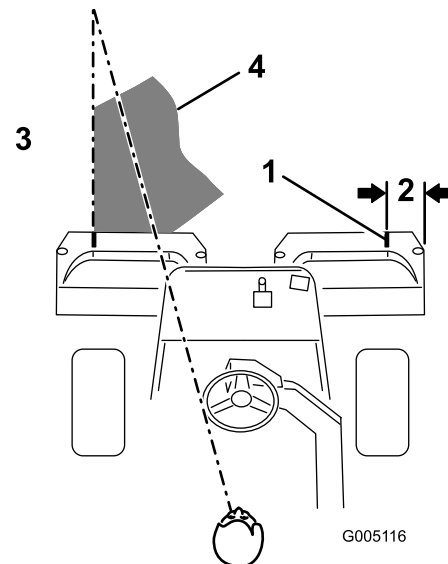

Figure 23
**Note:** To assist in maintaining a straight line across the green and keeping the machine an equal distance from the edge of the previous cut, imagine a sight line approximately 1.8 to 3 m (6 to 10 ft) ahead of the machine to the edge of the uncut portion of the green (Figure 23). Include the outer edge of the steering wheel as part of the sight line; i.e., keep the steering wheel edge aligned with a point that is always kept the same distance away from the front of the machine.